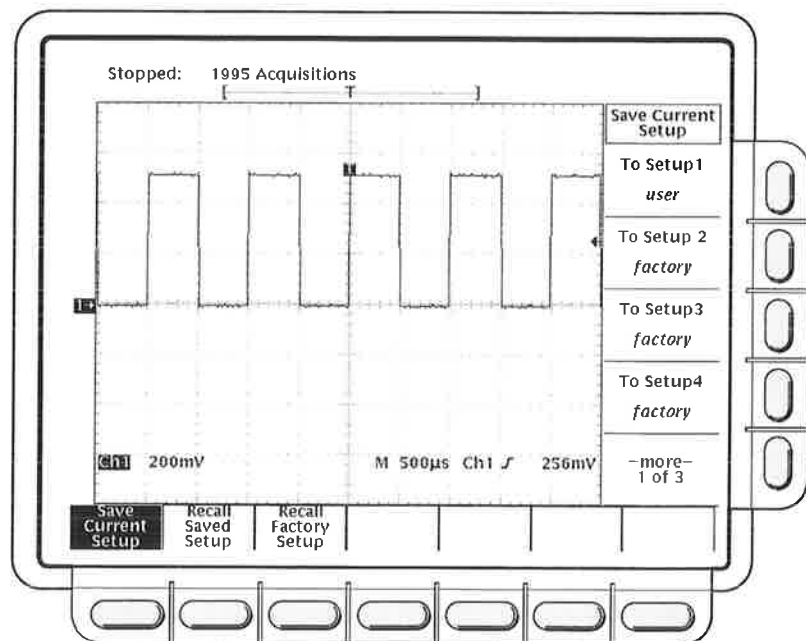

Figure 3-52: Save/Recall Setup Menu
2. Choose one of the ten storage locations from the side menu **To Setup 1**, **To Setup 2**, ... (see Figure 3-52). Now the current setup is stored in that location.